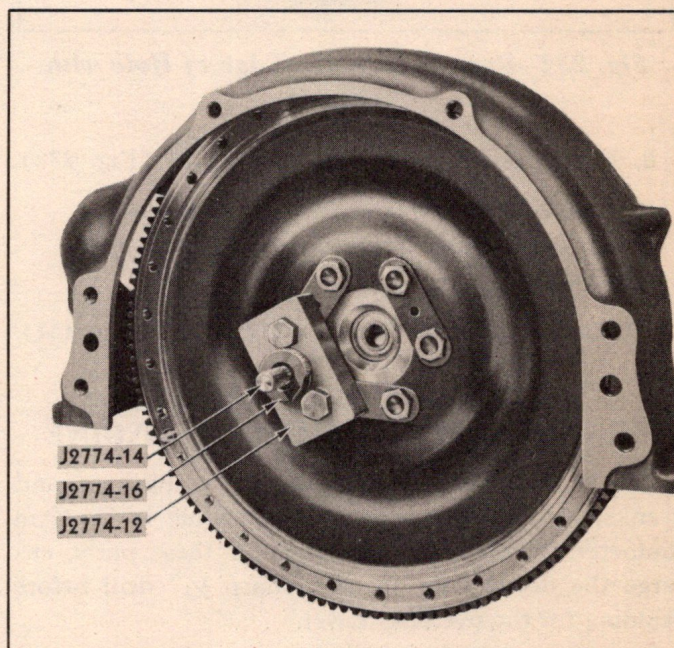

Fig. 229—Locating Reamer Guide Block
8. Ream dowel hole for oversize (service) dowel, using tool J-2774-12, J-2774-14, J-2774-15, J-2774-16 and J-2774-17 (Figs. 229, 230, and 231).